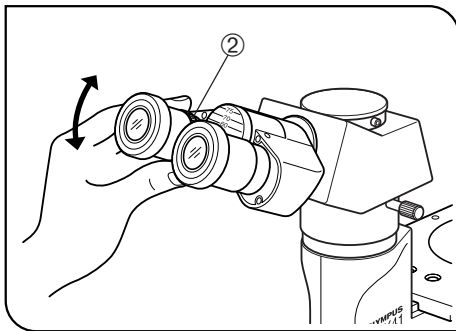

Fig. 12
2. While looking through the left eyepiece with your left eye, turn only the diopter adjustment ring ② to focus on the specimen. (Fig. 12)